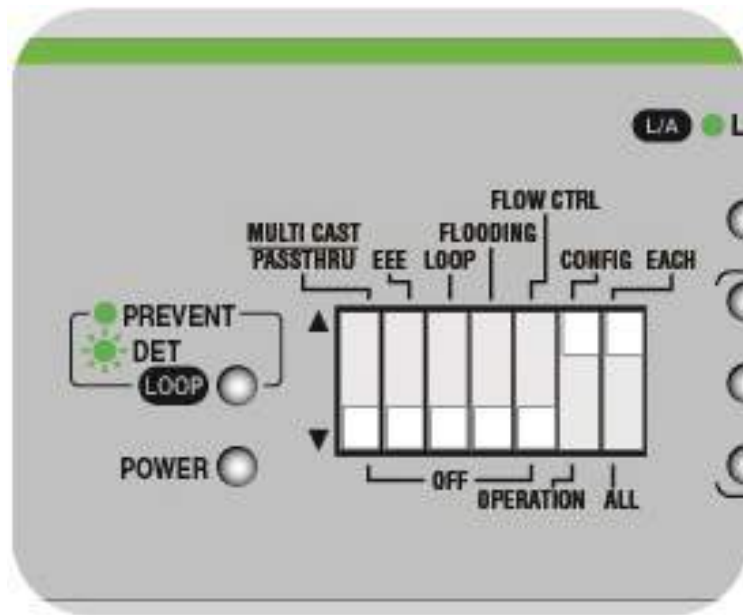

Figure 55. DIP Switch Settings for Configuring an Individual Port
2. Set DIP switch # 7 (ALL/EACH) to the UP (EACH) position as show in Figure 55.
2. Set DIP switch # 7 (ALL/EACH) to the UP (EACH) position as show in Figure 55 on page 87.